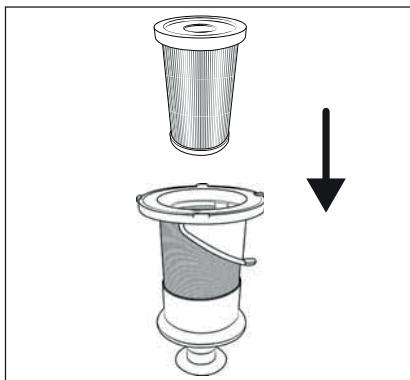

Fig. 24
- Do not turn the stainless steel filter ⑥ while inserting it into the dust container ⑦. Pay attention to the two markings on the stainless steel filter ⑥ and on the dust container ⑦ to insert the stainless steel filter ⑥ correctly.
- 7) Insert the EPA filter ⑤ into the stainless steel filter ⑥ (see Fig. 24).